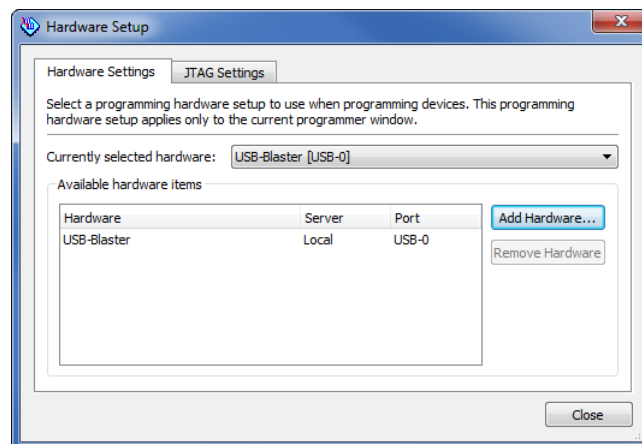

Figure 11. Setting up hardware.
- For SignalTap II to work, we need to properly set up the hardware. First, make sure the DE-series board is plugged in and turned on. In the Hardware section of the SignalTap II window, located in the top right corner, click **Setup**, bringing up the window in Figure 11. Double click USB-Blaster in the Available Hardware Items menu, then click **Close**.